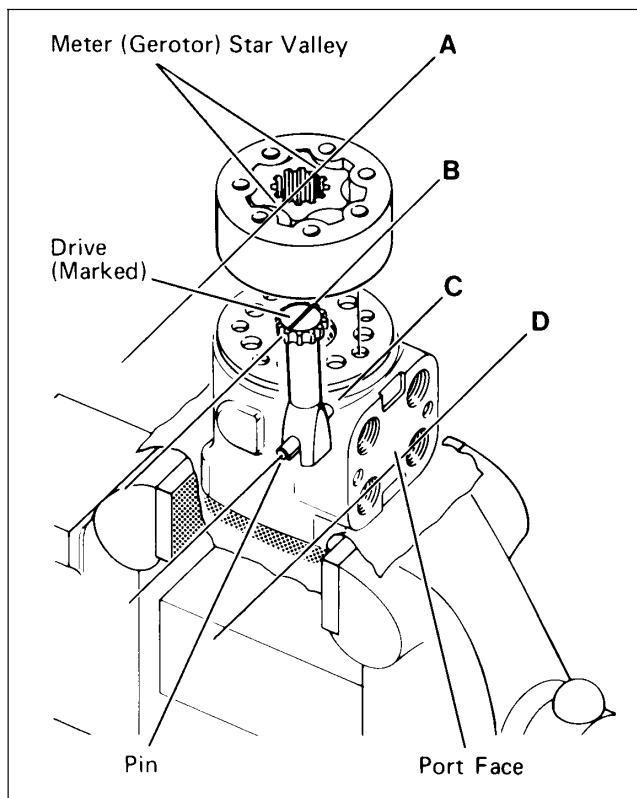

Figure 65
21. Rotate spool and sleeve assembly until pin is parallel with port face. Install drive, make sure you engage drive with pin, To assure proper alignment, mark drive as shown in Fig. 65 (ref. B). Note relationship between slotted end of drive to splined end of drive when marking.